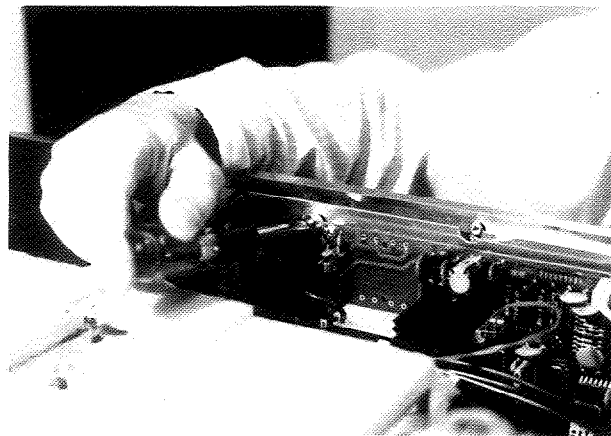

Figure 11
2. Remove 2 nuts holding mounting bracket and remove. (See Figure 11)